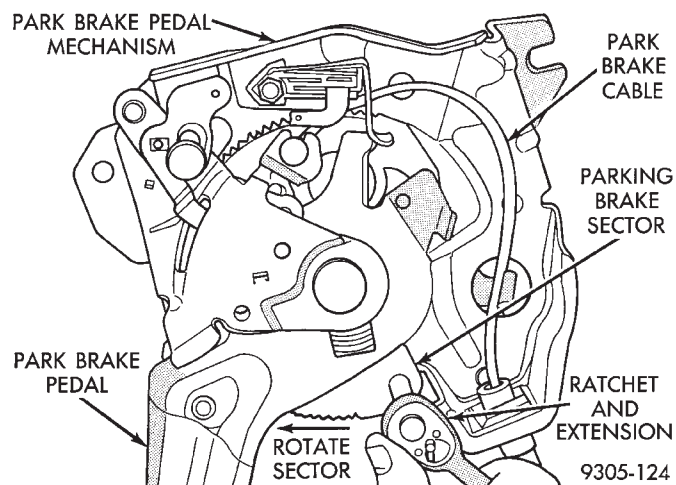

Fig. 3 Winding Park Brake Sector Spring
(1) Remove shift knob from floor shifter (if equipped). Shift knob is removed by removing 3/32 in. allen head set screw located on drivers side of shift knob and then pulling strait up on shift knob.
(2) Remove upper center console cover from vehicle if equipped. Refer to group 23 Body in this service manual for required procedure to remove center console.
(3) Remove the entire lower dash panel assembly from vehicle. Refer to group 8 Electrical in this service manual for required procedure to remove lower dash panel.
(4) Insert a 1/4 in. drive ratchet and extension into 1/4 in. square hole located in sector of park brake pedal mechanism (Fig. 3).
(5) Pull on ratchet and extension, rotating sector toward rear of vehicle until ratchet extension contacts back of park brake pedal. This will fully wind sector spring (Fig. 3).